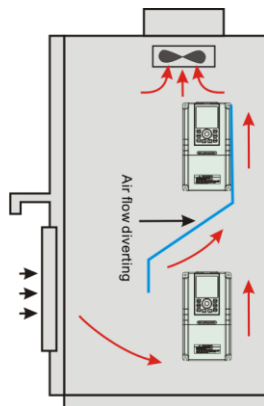

Fig.3-2 Mounting of multiple VFD
- ◆ When several VFD are installed in one cabinet, they should be mounted in parallel with special incoming and out coming ventilation and special fans. When two VFD are mounted up and down, an air flow diverting plate should be fixed as shown in Fig.3-2 to ensure good heat dissipation.